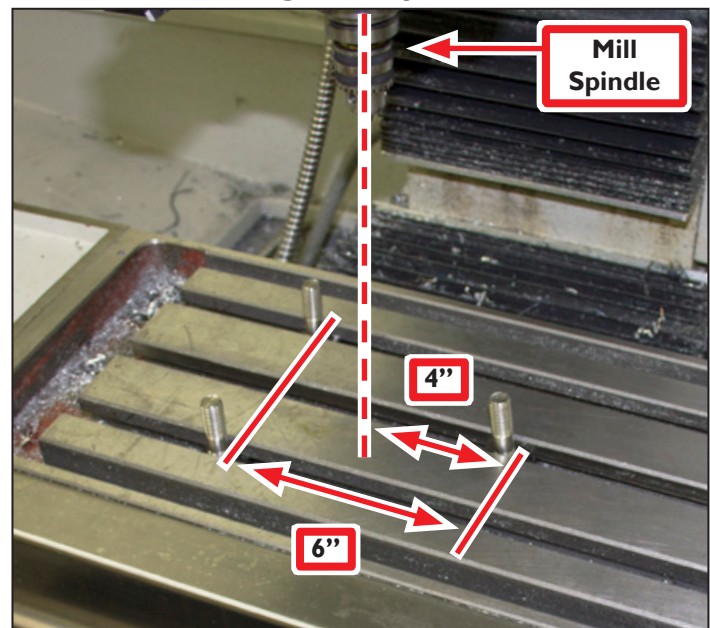

Figure 2.11
4. Slide one threaded stud and T-nut assembly into machine table's center T-slot; position approximately 4" to right of Mill Spindle centerline (see **Figure 2.11**).
5. Slide two threaded stud and T-nut assemblies into T-slots as shown in **Figure 2.11**; position 6" behind front threaded stud and T-nut assembly (see **Figure 2.11**).